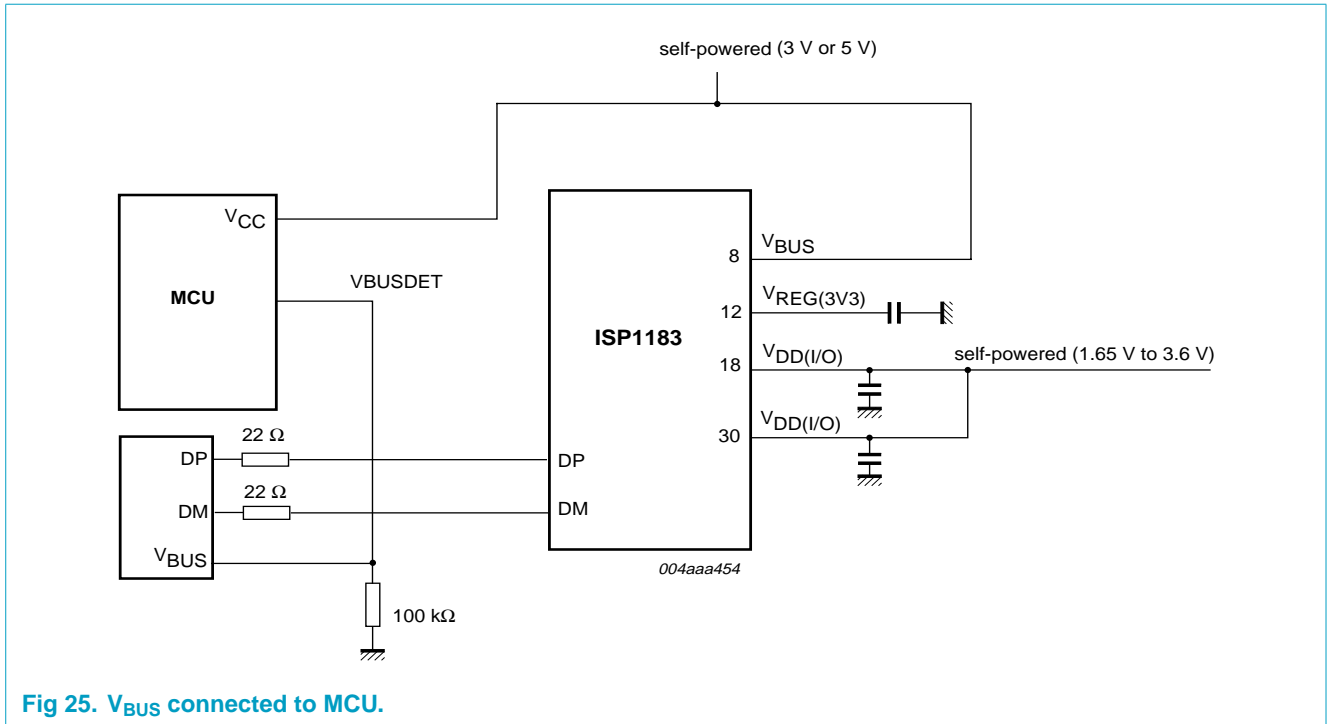

Fig 25. V_{BUS} connected to MCU.
- Connecting V_{BUS} to the MCU; see Figure 25.